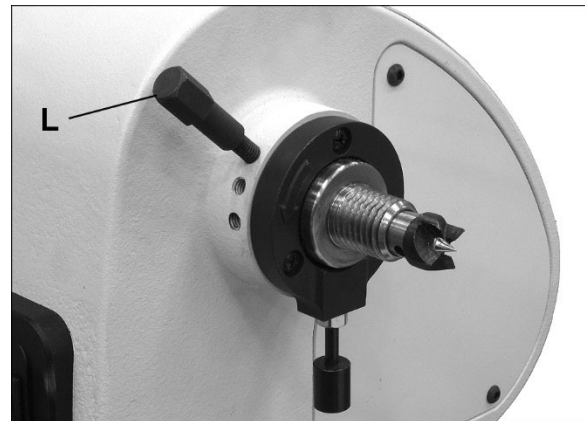

Figure 14
5. Slide tailstock over joint where beds meet, so that clamping nut is centered over joint (Figure 14). Lock tailstock clamping handle; this will align the beds.
6. Securely tighten screws (P) in bed extension.
1. Rotate spindle using the handwheel until the index pin (L, Figure 14) aligns with the desired hole.